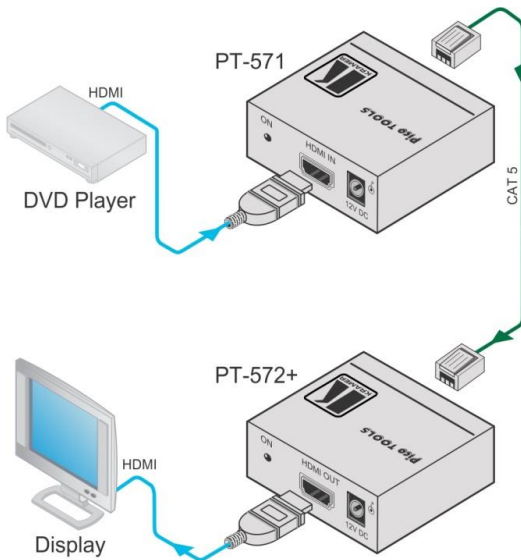

Figure 3: Connecting the PT-571/PT-572+ Transmitter/Receiver Pair
To connect the **PT-571** to the **PT-572+**, as illustrated in the example in Figure 3, do the following:
- Connect the 12V DC power adapter to the power socket on the **PT-571** and/or the **PT-572+** and connect the adapter to the mains electricity (not shown in Figure 3).